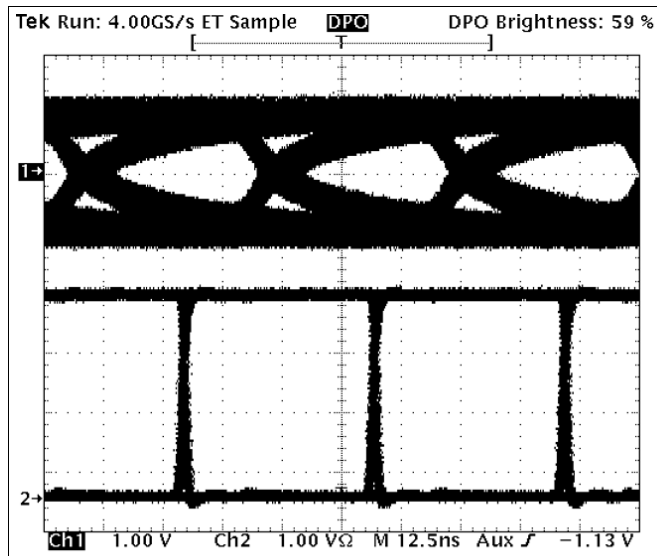

Figure 30. SN65HVD23 Receiver Performance at 25 Mbps Over 150 Meter Cable
**Figure 30** illustrates the benefits of integrated receiver equalization as implemented in the SN65HVD23 transceiver. In this test setup, a differential signal generator applied a signal voltage at one end of the cable, which was Belden 3105A twisted-pair shielded cable. The test signal was a pseudo-random bit stream (PRBS) of nonreturn-to-zero (NRZ) data. Channel 1 (top) shows the eye-pattern of the differential voltage at the receiver inputs (after the cable attenuation). Channel 2 (bottom) shows the output of the receiver.